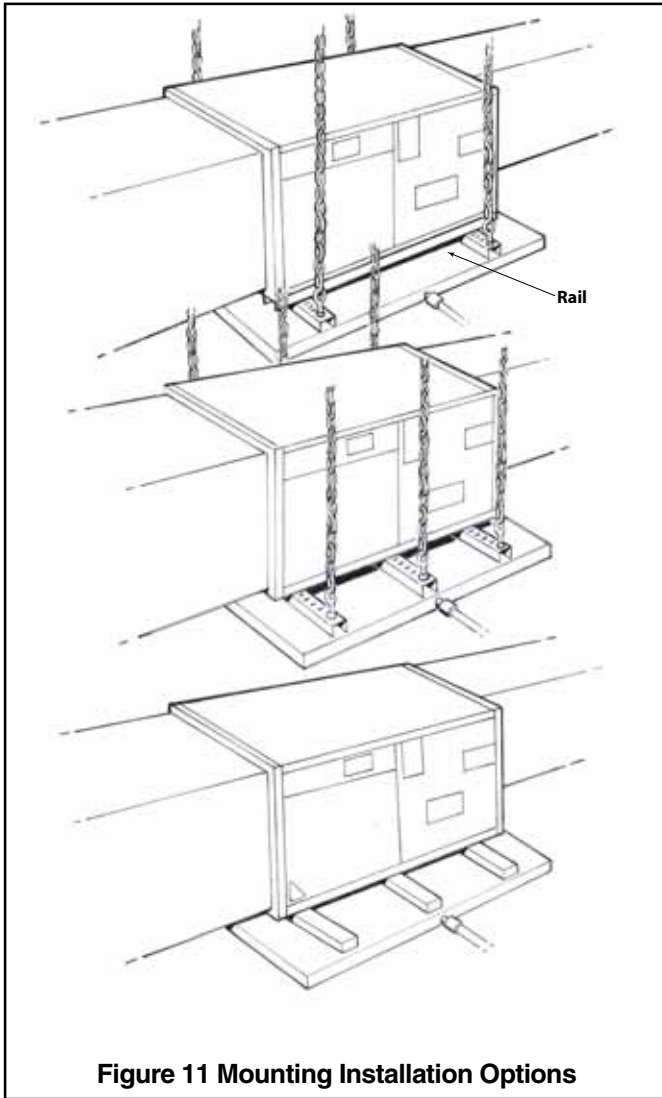

Figure 11 Mounting Installation Options
- e. If the unit is suspended, it must be supported from the bottom near both ends as well as the middle to prevent sagging. The service access must remain unobstructed. If the unit is supported along the length of the front and back with rails, the air handler only needs to be suspended at both ends. See Figure 11.
- c. If the unit is suspended, it must be supported from the bottom near both ends as well as the middle to prevent sagging. The service access must remain unobstructed. If the unit is supported along the length of the front and back, the air handler only needs to be suspended at both ends. See Figure 11.